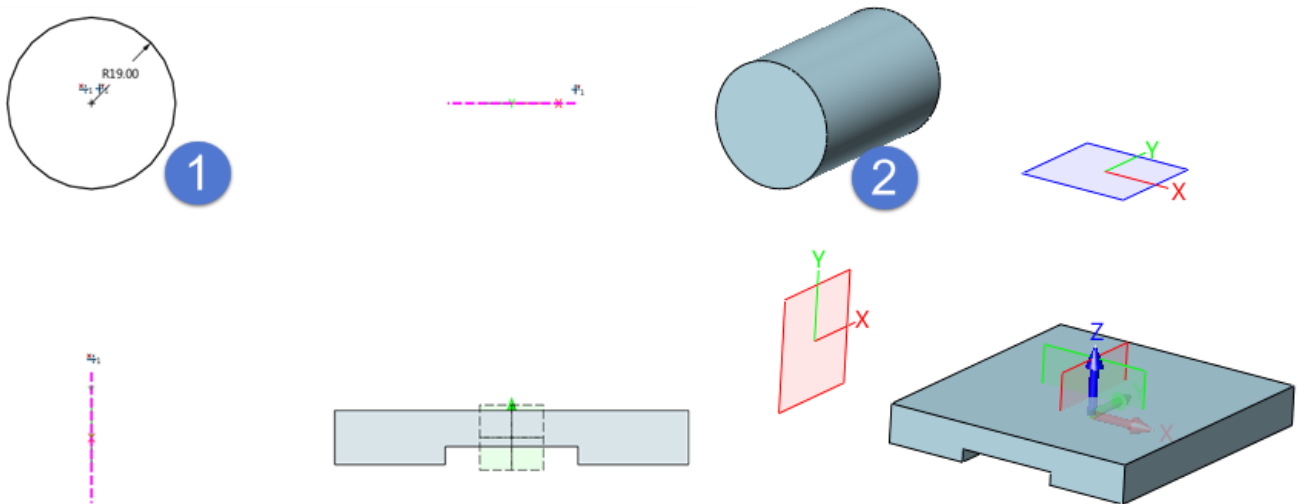

Figure 105 Extruded Cylinder
STEP 01 Select XZ plane, and draw a circle of radius 19. And the x/ y coordinate is aligned with two planes respectively, as shown in the Figure105 on the left.